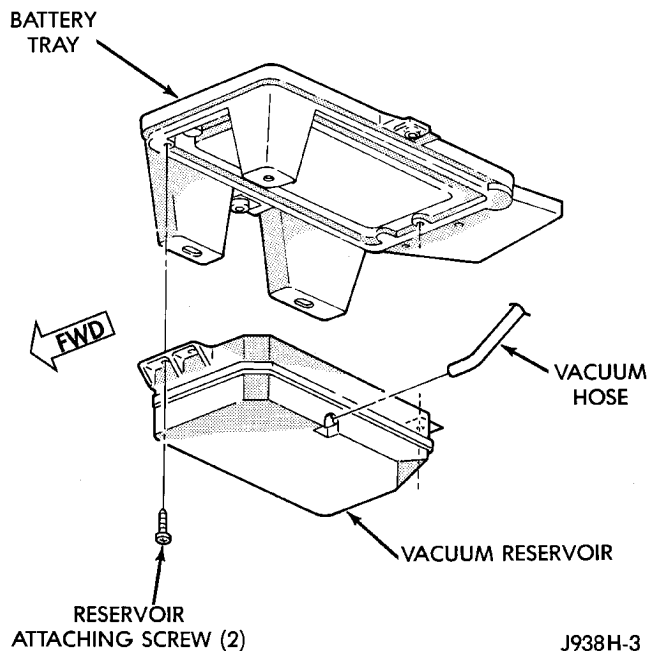

Fig. 8 Vacuum Reservoir Location
- (3) Remove 5 bolts securing battery tray.
- (4) Pull up battery tray and remove vacuum hose from reservoir (Fig. 8).
- (5) Remove 2 screws holding reservoir to battery tray.